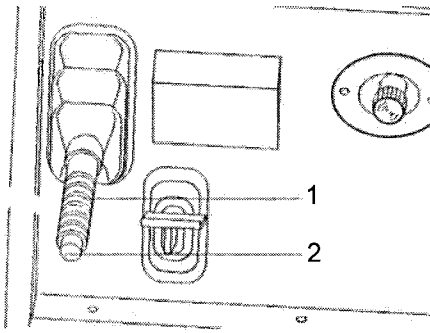

Fig. 9-1 - Parking Brake Lever
17. **Parking Brake Lever**- The parking brake lever is applied by pulling the lever upward and released by pressing the button and lowering the lever. (See Fig. 9-1).